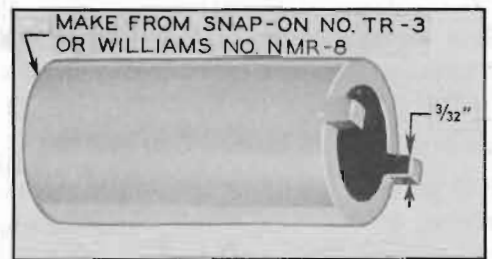

Figure 13-14—Control and Transmission Nut Socket Wrench
4. Using special socket wrench shown in figure 13-14 remove control nut and internal-tooth
3. Remove transmission nut using special socket wrench shown in figure 13-14. Remove windshield washer nut and nozzle, then remove escutcheon.